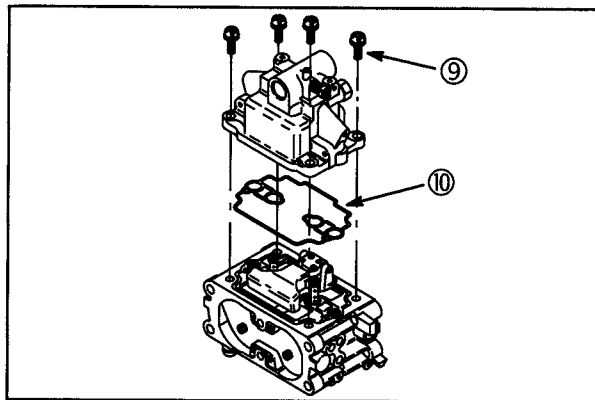

Fig. 62
4. Remove carburetor lower body screws (9). Lift lower body straight away from upper body, Fig. 62. Discard gasket (10).